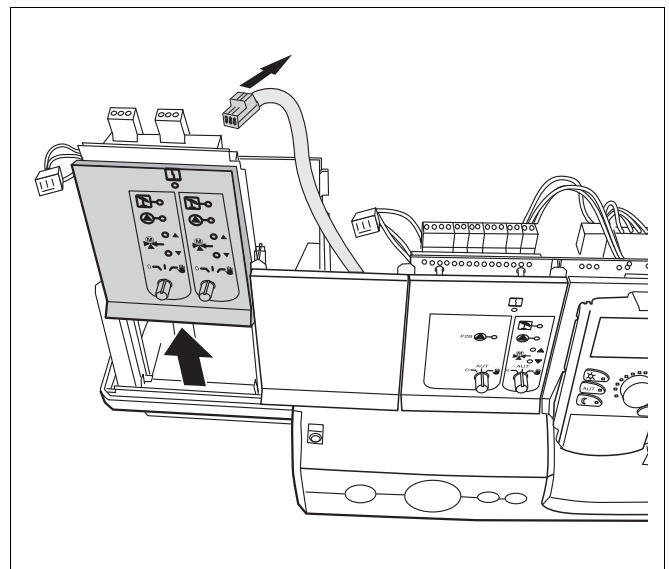

Fig. 10 Function module, removing the module
- Pull off all cables associated with the module you want to remove, at their respective terminals (→ Fig. 10).
- Pull the module from the slot (→ Fig. 10)